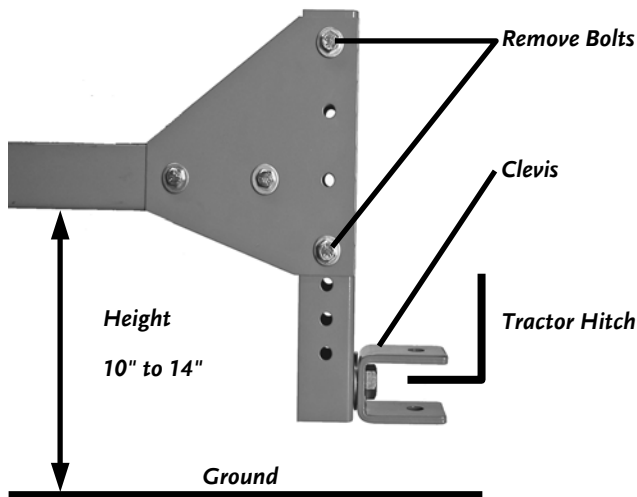

Figure 16A
Your machine is equipped with an Adjustable Hitch Assembly to accommodate various tractor configurations. Proper operating Tongue Height for the DR LEAF and LAWN VACUUM is between 10" and 14" as shown in **Figure 16A**. Please adjust your machine to the proper Tongue Height by removing the two (2) Nuts and Bolts on the Hitch Assembly and adjusting the Clevis Post to the correct Height for your tractor. Re-install the Bolts and Nuts, spacing them as far apart vertically as possible in the channel and tighten securely.